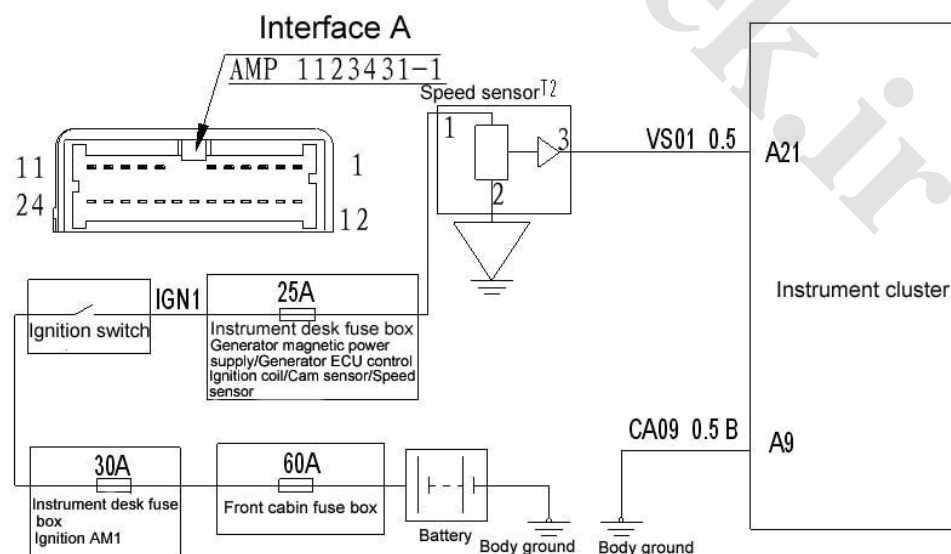

Fig. 4-21
(2) Check the circuit as shown in Fig. 4-21.